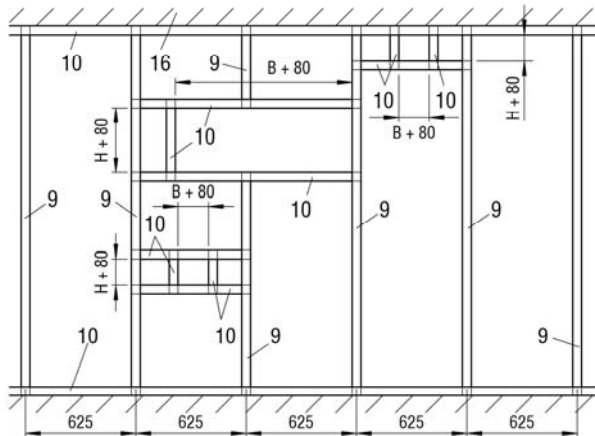

Figure 44: Metal stud frame with required replacement parts for dry installation
- Mount the metal posts and the wall in accordance with the specifications of the wall manufacturer and the required exchange parts as shown on Figure 44.
- Insert the BKA-EN (pos. 1) into the wall recess (operating side - observe the installation dimension of 210 mm). Average out the circumferential annular gap evenly between the wall and the BKA-EN. Mount the BKA-EN with the help of mounting suspensions, etc.
- Insert mineral wool (pos. 11.3) (non-flammable according to EN 13501-1, packing density 80 kg/m3, melting point ≥ 1000 °C) into the circumferential gap 40 mm in width between the housing of the BKA-EN and the circumferential metal profiles (pos. 10).
- Mount the wall panellings on both sides (pos. 12) and the doublings on the non-operating side (pos. 49.1). The connection and butt joints must be filled with the jointing material of the wall (pos. 43; max. gap width 5 mm, perform jointing operation as part of assembly).